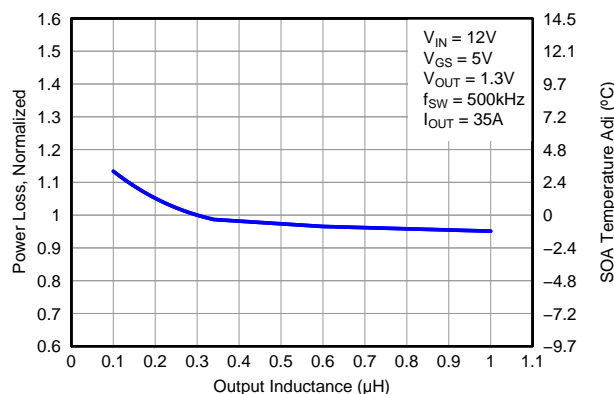

Figure 9. Normalized Power Loss vs. Output Inductance
- Normalized Power Loss for output inductor ≈ 1.07 (Figure 9)
- SOA adjustment for output inductor $\approx 1.6^\circ\text{C}$ (Figure 9)